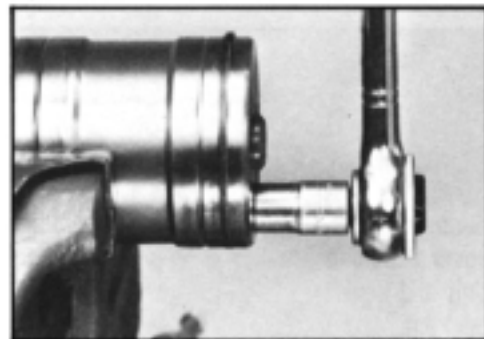

Figure 66
22. To remove poppets, place rack piston (39) in a soft jawed vise and turn poppet seats (30) out of both ends of rack piston. Remove two poppets (31), the nylon spacer rod (33) and spring (32). A 9/16 inch socket required. SEE FIGURES 66 and 67.